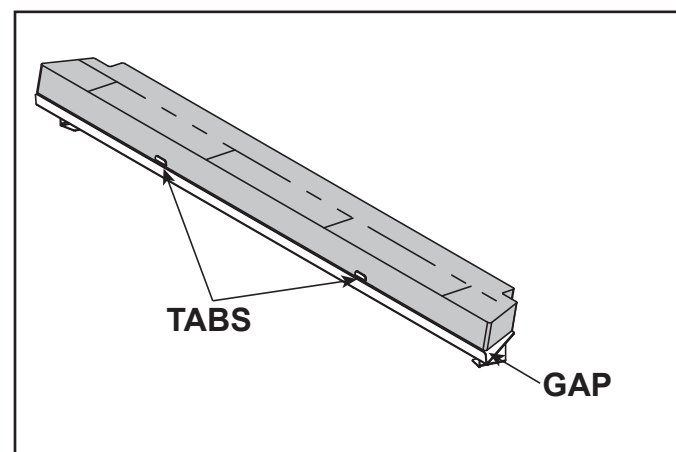

Figure 18. Refractory in Place on Bent Tabs
18. Place air baffle and refractory back onto tray in the appliance. Notice that the bent tabs create a gap. See Figure 18.